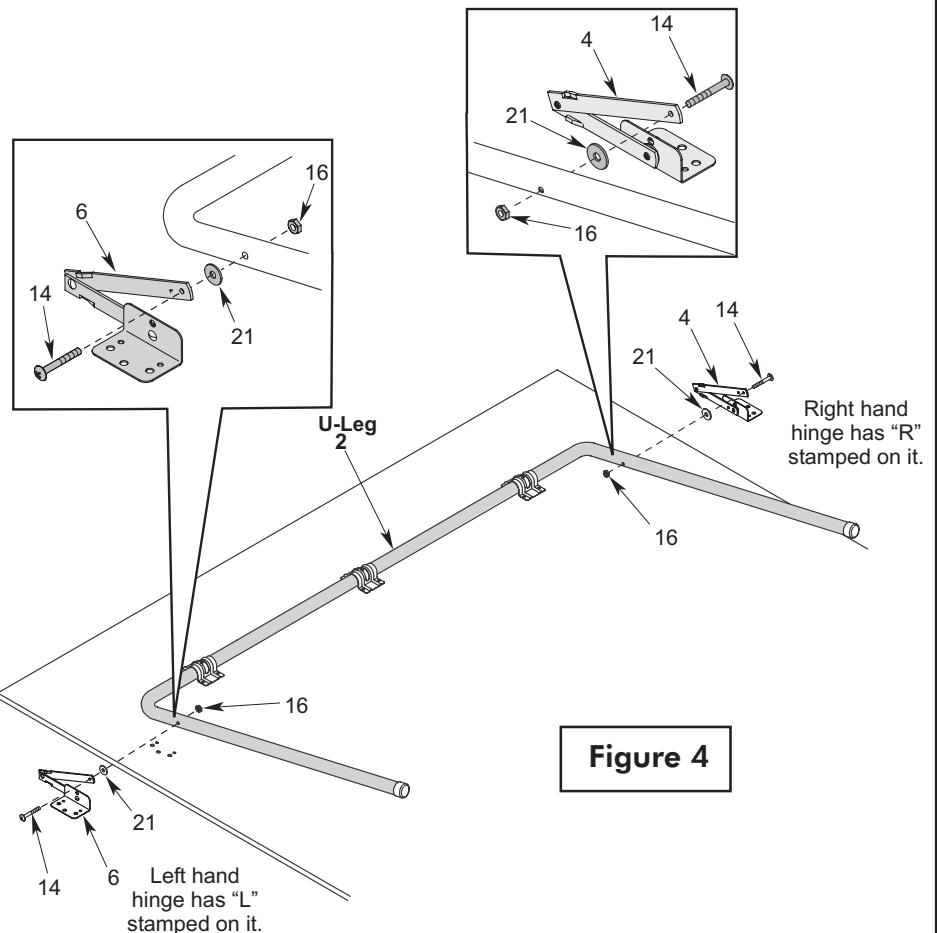

Figure 4
7. Attach hinge and brackets #6 and #4 to U-leg #2 as shown in Figure 4. **NOTE: Hinges are right hand and left hand and must be attached as shown.** Left hand hinge #6 has the letter "L" stamped on it and the right hand hinge has "R". Attach with screws #14, plastic washers #21 and locknuts #16. Tighten nuts until snug, but do not overtighten. Hinges must pivot. See Figure 4.